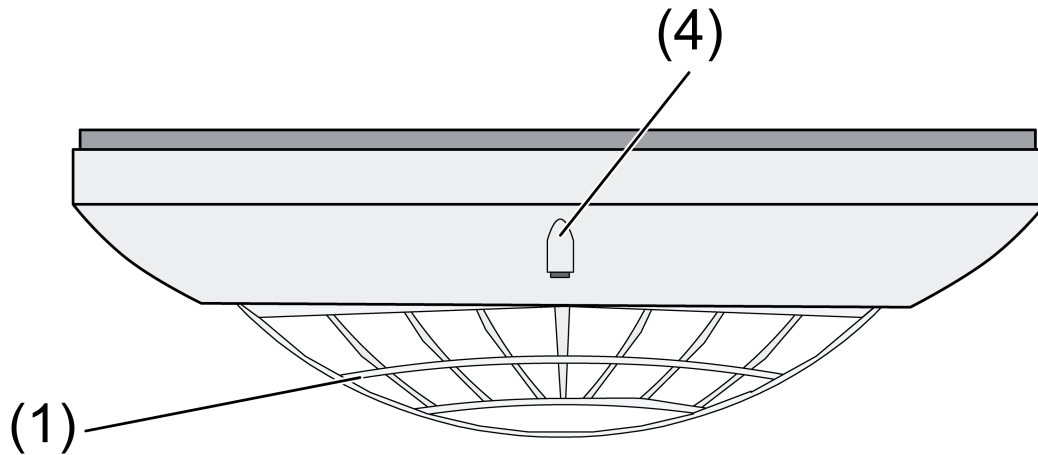

Figure 11
- To activate the light control test mode, press the button (4) for at least 1 second (Figure 11).
- To activate the walking test mode, press the button (4) for less than 1 second (Figure 11).